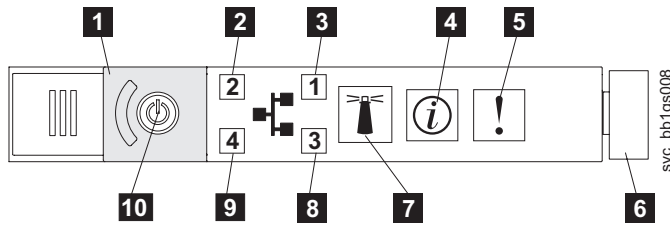

Figure 92. SAN Volume Controller 2145-CG8 or 2145-CF8 operator-information panel
1. Is the Error LED, shown in Figure 92, on the SAN Volume Controller 2145-CF8 operator-information panel on or flashing?